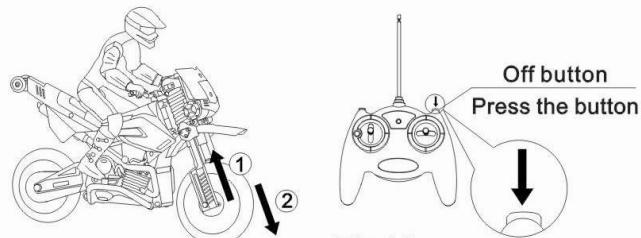

Fig12
When the body in Straight line moving, (body plumb with the ground as possible), while release the forward handle press bouncing button then release, when the body straight up and then press the acceleration button, then cars will be driving straight, When found the body slope, press brake button return to normal driving.(Figure 12)
- (1)Front wheel bouncing power more fierce when press jumping button, so do not be facing the front wheel to human facial or eye, in order to avoid injuries. (Figure 12)
- (2)When a moving body in an upright body, if found to tilt to the next by "brake button" return to normal driving status to prevent the body falling.